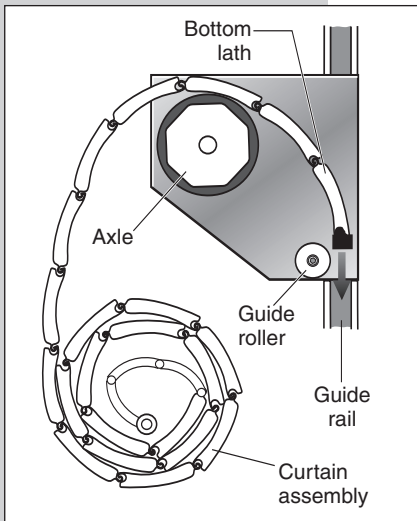

Fig 17
**6.3.3** Feed the bottom lath over the top of the axle and down between the guide rails (see Fig 17) taking care not to scuff the curtain assembly. Proceed until the full curtain has been fed over the axle and the bottom lath reaches the floor.